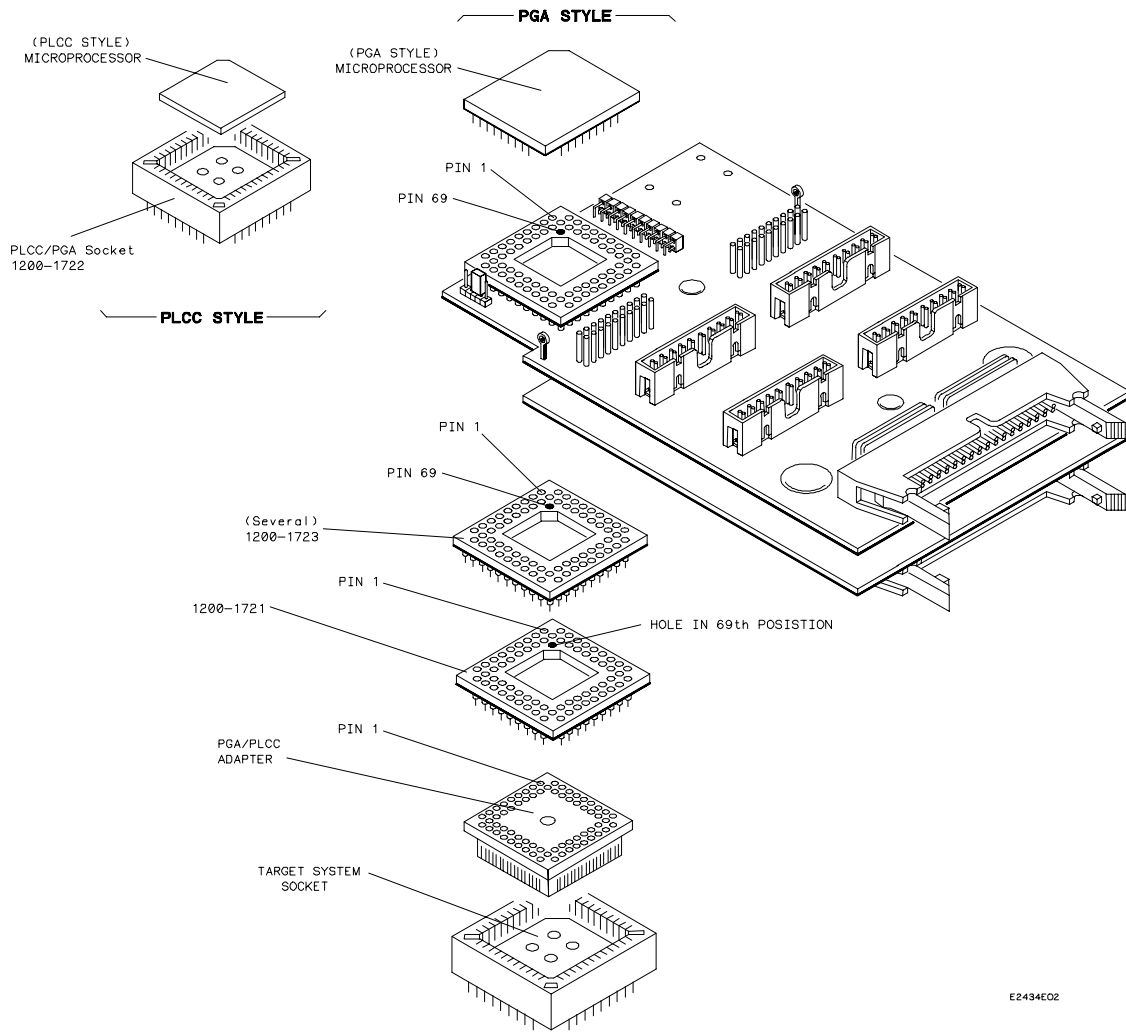

Figure 1-2. Connecting to a PLCC Socket
3. Noting the position of pin 1, place the PGA to PLCC Adapter in the microprocessor socket on the target system (see figure 1-2).
If a PGA-style 80C186 microprocessor chip is unavailable, the PLCC to PGA Socket can be used. Note the position of pin 1 and install the PLCC to PGA Socket in the PGA socket on the top of the preprocessor interface. Then install the PLCC-style 80C186 microprocessor in the PLCC socket, ensuring that pin 1 is properly aligned (see figure 1-2).